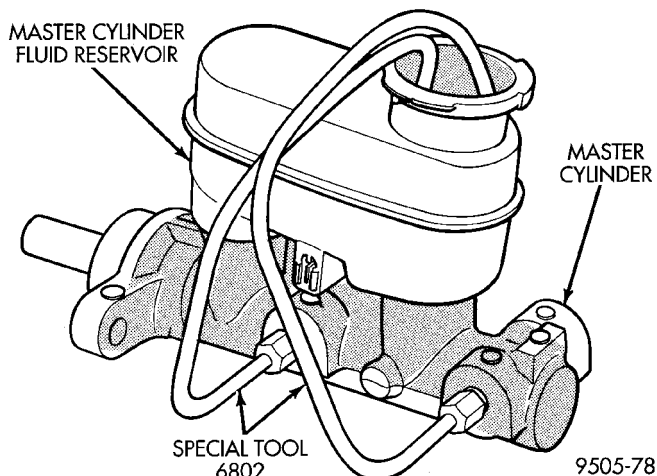
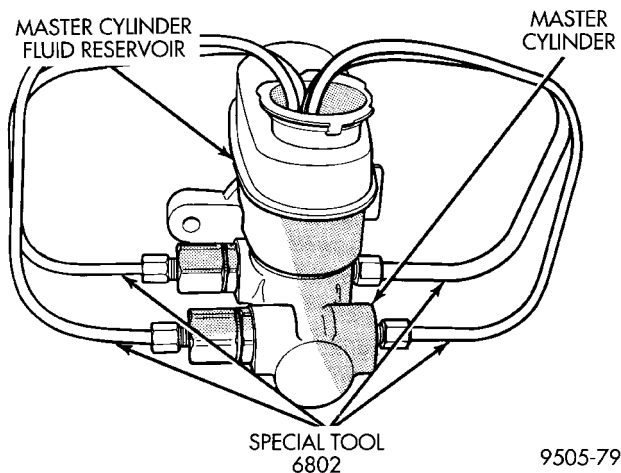

Fig. 36 Bleeding Tubes Attached to ABS Master Cylinder
Fig. 37 Bleeding Tubes Attached To Non-ABS Master Cylinder
(1) Clamp the master cylinder in a vise. Attach Bleeding Tubes, Special Tool 6802 to the master cylinder (Fig. 36) and (Fig. 37). Position so outlets of Bleeding Tubes will be below surface of brake fluid when reservoir is filled to its proper level.